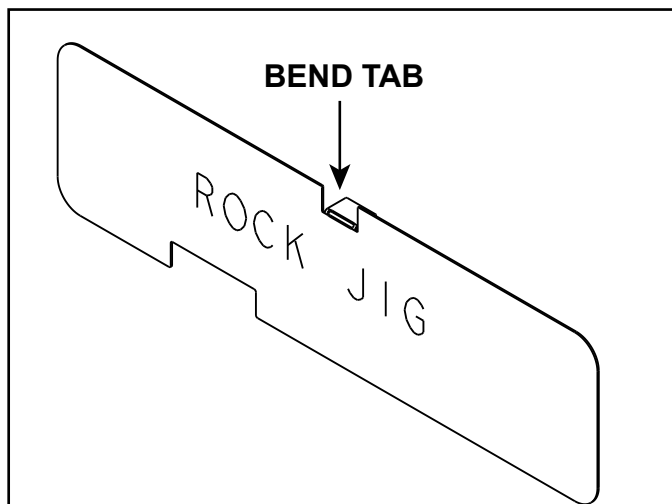

Figure 11.5 Bend Tab on Rock Jig
1. Bend tab on rock jig down as shown in Figure 11.5.